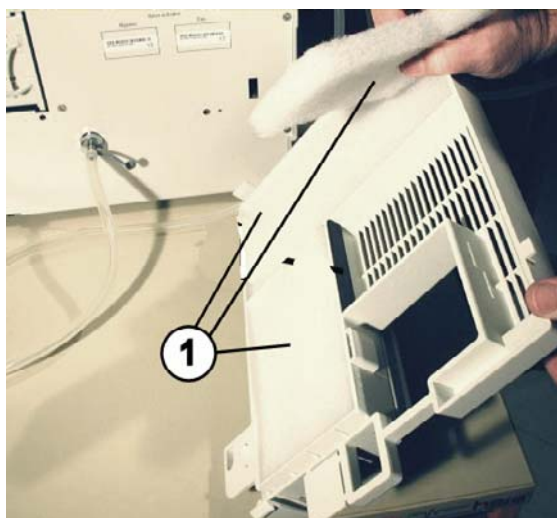

Fig. 30 View of filter cover; dust filter
2. Withdraw the dust filters (3x) (Fig. 30/1) out of the filter cover and dispose of them in the domestic waste bin.
1. Insert the dust filters (Fig. 30/1) in the corresponding recesses in the filter cover.